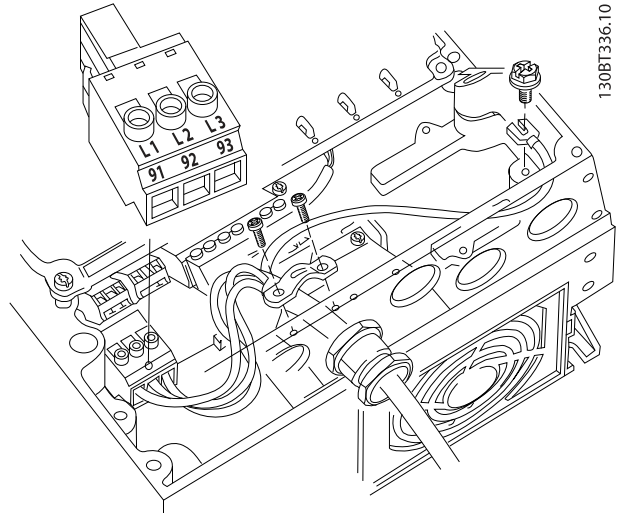

Figure 2.13 Connecting to AC Line Power
- Connect 3-phase AC input power wiring to terminals L1, L2, and L3 (see *Figure 2.13*).